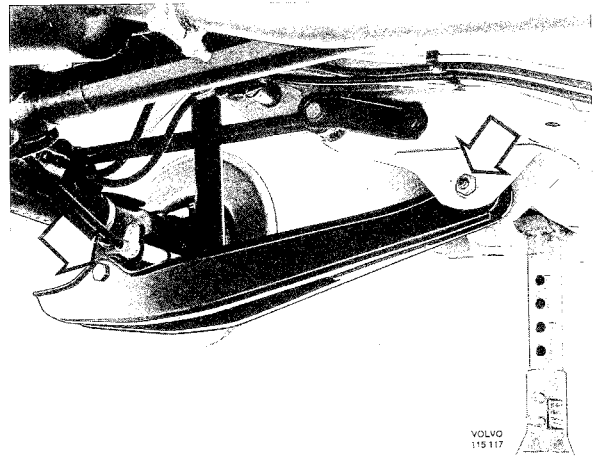

Fig. 7-12. Trailing arm attachments
4. Remove front and rear retaining bolts for the trailing arm and remove the trailing arm (Fig. 7-12).
- with the stabilizer (Fig. 7-12). Torque the bolts finger tight.